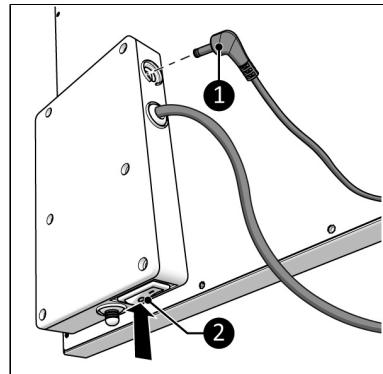

Figure 26.
1. Make sure the ON/OFF switch is in the OFF position (Figure 26, pos. 2).
2. Connect the external temperature sensor connector (Figure 26, pos. 1) to the sensor plug.